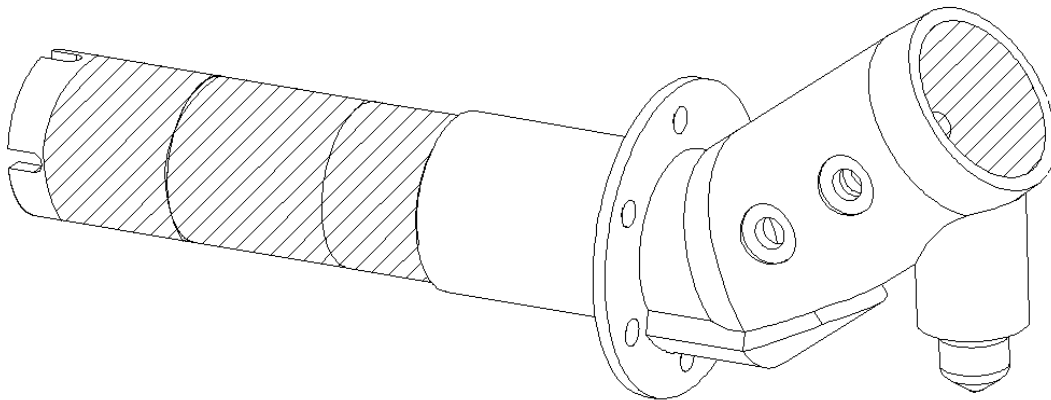

Figure 5 – No Paint Areas
1. If any areas of paint have been removed, mask machined, threaded and internal surfaces of Axle Assembly shown in Figure 5.